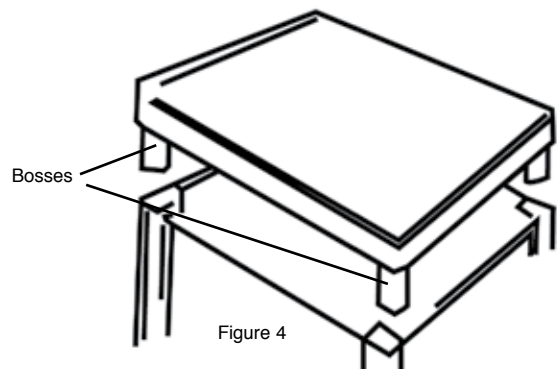

Figure 4
STEP 4: Take top shelf and place onto legs so that the bosses are fitting into the holes in the top of the legs. The top shelf should be placed over the longer notches. Be sure that the ribbed side is facing down. Push shelf down as far as you can by hand. Gently tap with mallet* if necessary. (FIGURE 4)